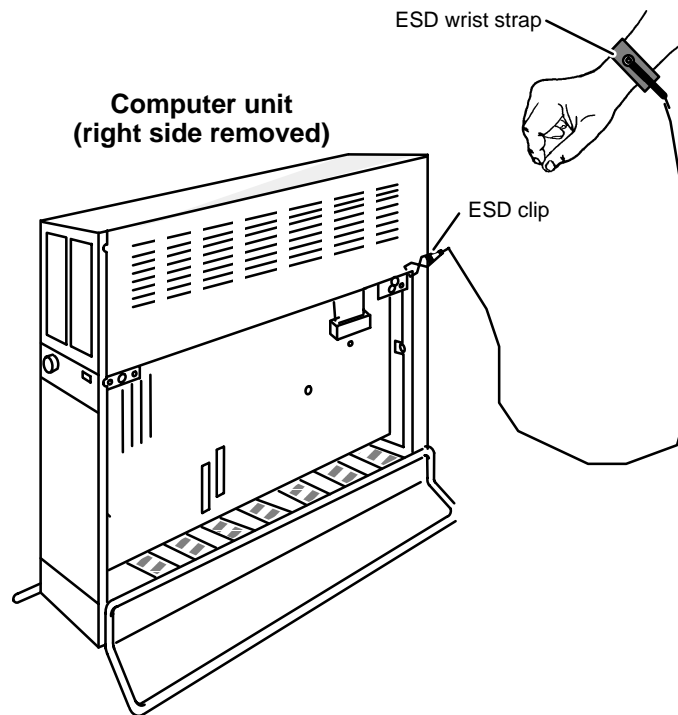

Figure 6-7 Attaching the ESD Wrist Strap and Clip
5. Put on the ESD wrist strap and attach the ESD clip to any unpainted metal surface of the chassis as shown in Figure 6-7.